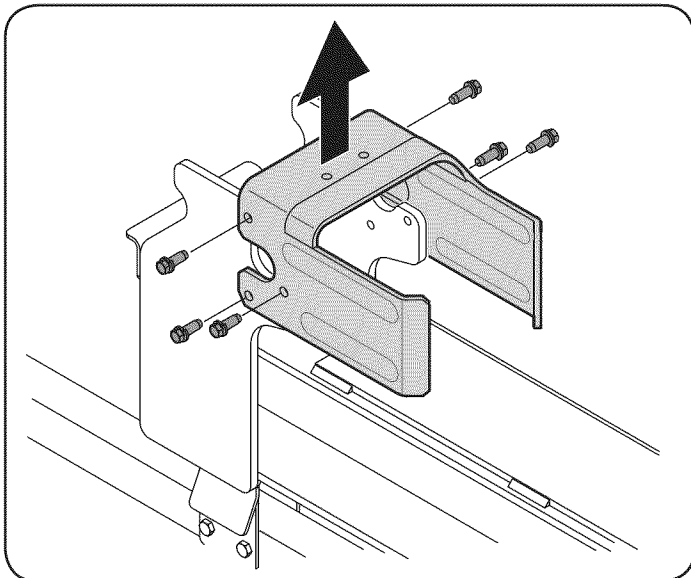

Figure 4
13. Disconnect the dislodger from the beam weld bracket by removing the six hex screws. See Figure 4.
16. Attach the dislodger over the wedge assembly and secure it to the weld brackets with the previously removed hardware. See Figure 4.